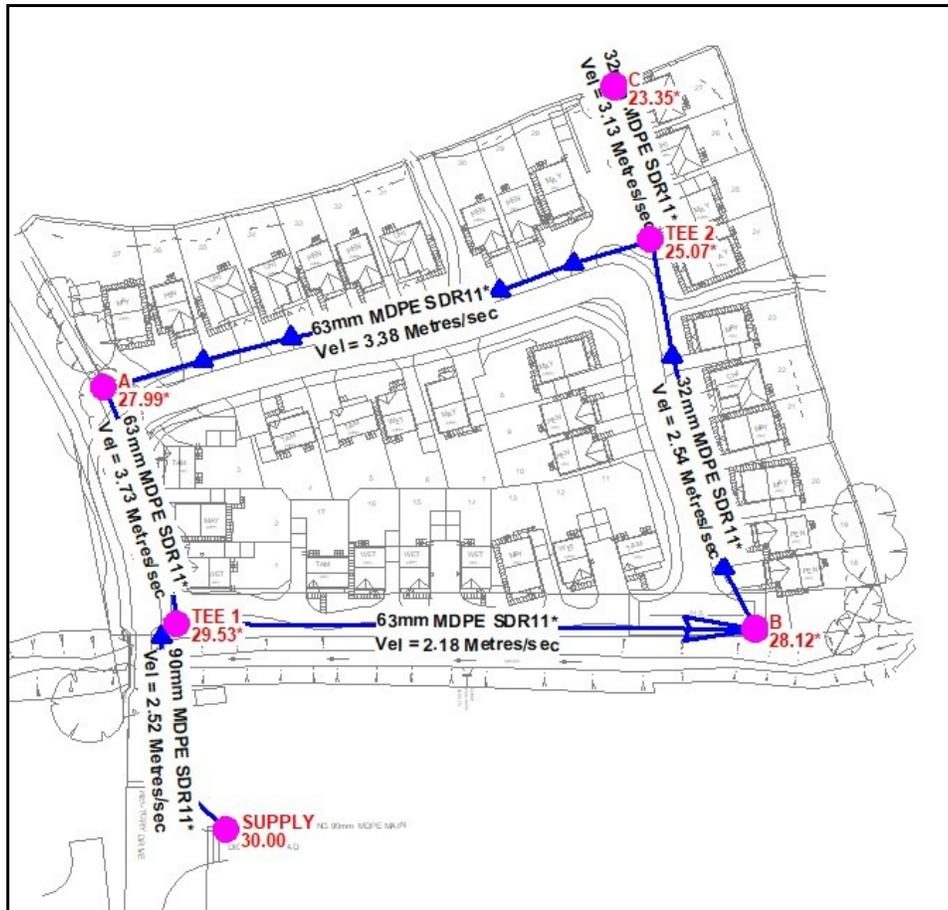

Figure 6
The pressure values, flow directions, and pipe sizes should be similar to those shown in Figure 6.
- As a result of the “hand drawn” pipe segments, each example model is created slightly different. Therefore the results will be slightly different for each model. The results, however, should be similar to those shown in Figure 6.